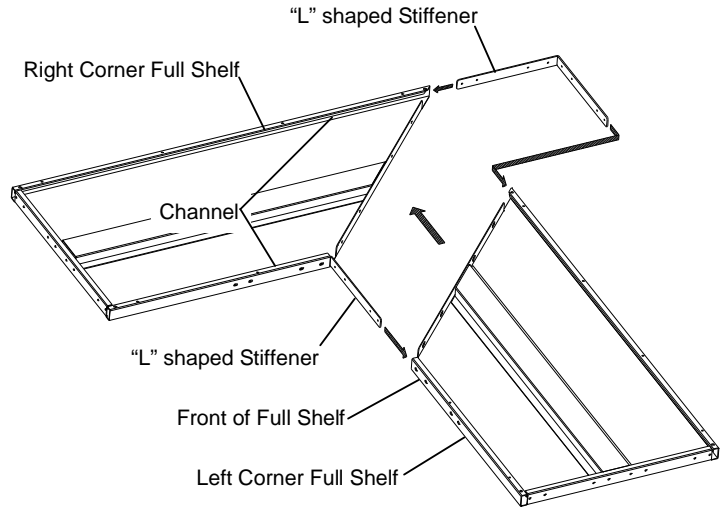

Figure 5
6. Slide the two “L” shaped Stiffeners into the channels of one of the shelf halves. See figure 5.
7. Align the “L” shaped Stiffeners with the channels in the opposite shelf halve and slide the two halves together. Secure the mating surfaces using four 1/4”-20 x 1/2” long hex head screws (provided). See figures 5 and 6.